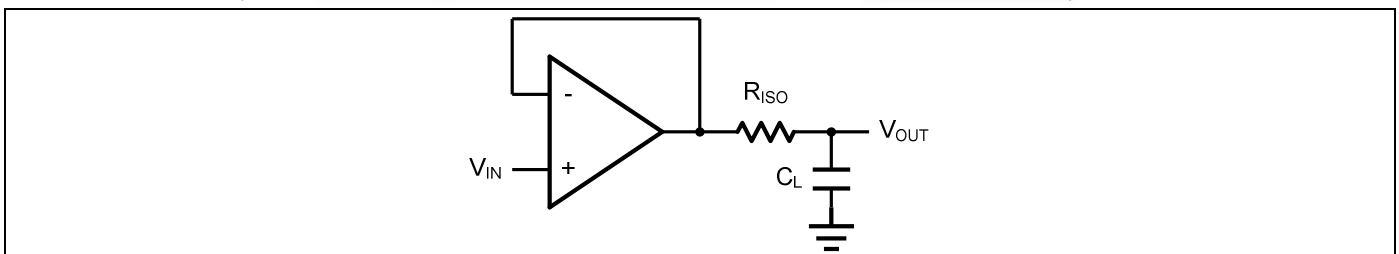
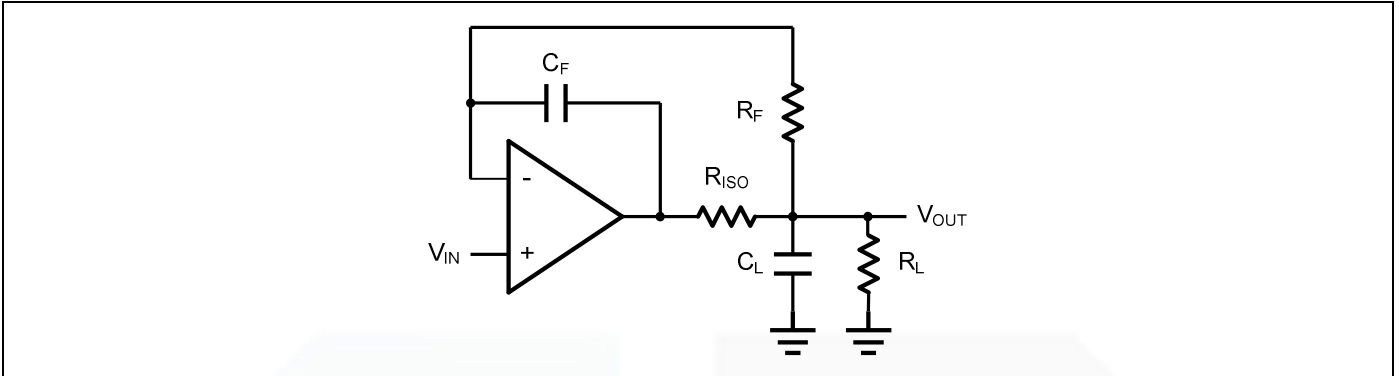

Figure 2. Indirectly Driving a Capacitive Load Using Isolation Resistor
Figure 3. Indirectly Driving a Capacitive Load with DC Accuracy
The GS321 family is optimized for bandwidth and speed, not for driving capacitive loads. Output capacitance will create a pole in the amplifier's feedback path, leading to excessive peaking and potential oscillation. If dealing with load capacitance is a requirement of the application, the two strategies to consider are (1) using a small resistor in series with the amplifier's output and the load capacitance and (2) reducing the bandwidth of the amplifier's feedback loop by increasing the overall noise gain. Figure 2. shows a unity gain follower using the series resistor strategy. The resistor isolates the output from the capacitance and, more importantly, creates a zero in the feedback path that compensates for the pole created by the output capacitance.
The circuit in Figure 3 is an improvement to the one in Figure 2. R_{F} provides the DC accuracy by feed-forward the V_{IN} to R_{L} . C_{F}